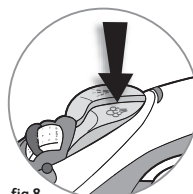

fig.8
- Press the **Burst of Steam** button periodically to remove stubborn wrinkles (fig.8).